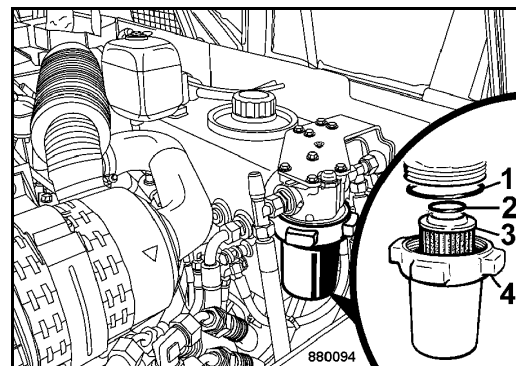

Fig. 171
- Remove filter bowl (4) (Fig. 171) with filter element (3).